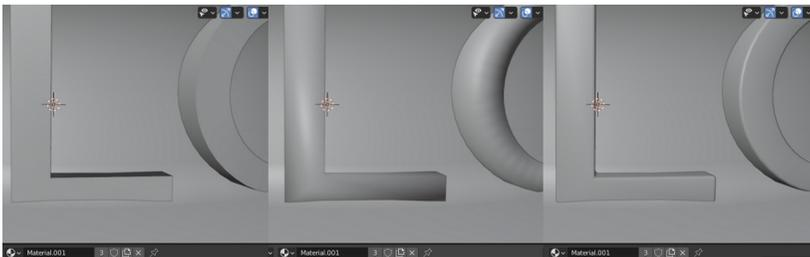

Figure 3-5 Joining split edges and adding a bevel
13. Back in Object mode add a Bevel Modifier and increase the Segments to **3**. Figure 3-5 shows the three stages moving from split edges to continuous mesh to a beveled edge.